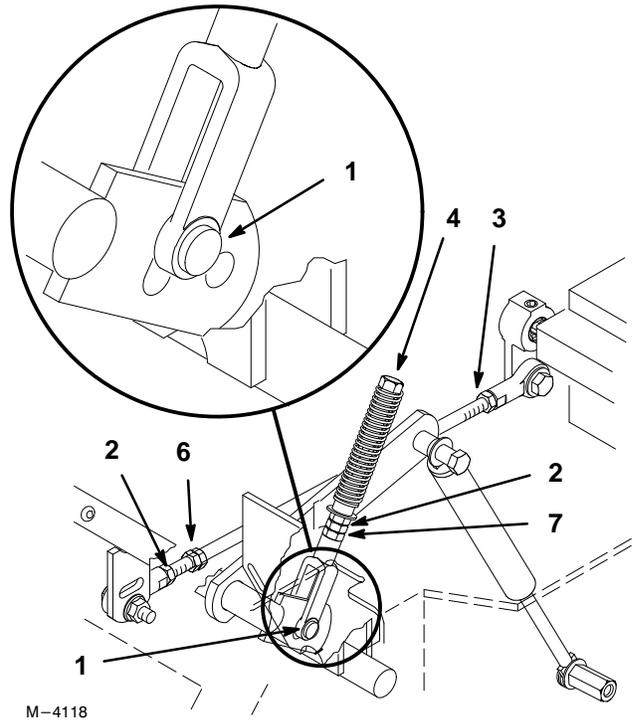

Figure 45
2. Begin with either the left or right motion control lever. Move lever to the neutral (but not locked) position and pull lever back until the clevis pin (on arm below pivot shaft) contacts the end of the slot (just beginning to put pressure on spring) (Fig. 45).
5. Apply slight rearward pressure on the motion control lever, turn the head of the adjustment bolt in the appropriate direction until lever is centered in neutral lock position (keeping rearward pressure on the lever will keep the pin at the end of the slot and allow the adjustment bolt to move the lever to the appropriate position (Fig. 45).
4. If adjustment is needed, loosen the nut against the yoke (Fig. 45).
- Loosen locknut at ball joint on pump control rod (Fig. 45).
- Adjust pump rod length by rotating double nuts on rod, in the appropriate direction, until wheel is still or slightly creeps in reverse (Fig. 45).